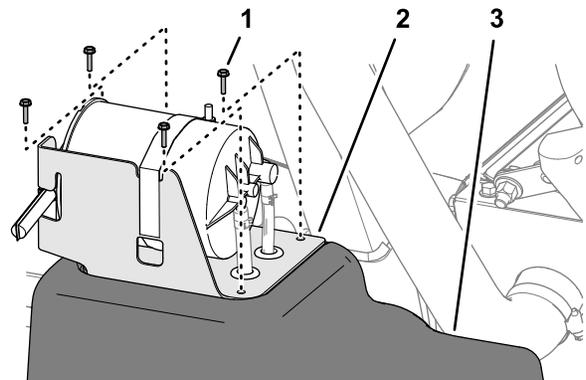

Figure 80
2. At the fuel tank, remove the 4 screws (#10 x 3/4 inch) that secure the carbon-canister bracket to the top of the fuel tank (Figure 80).